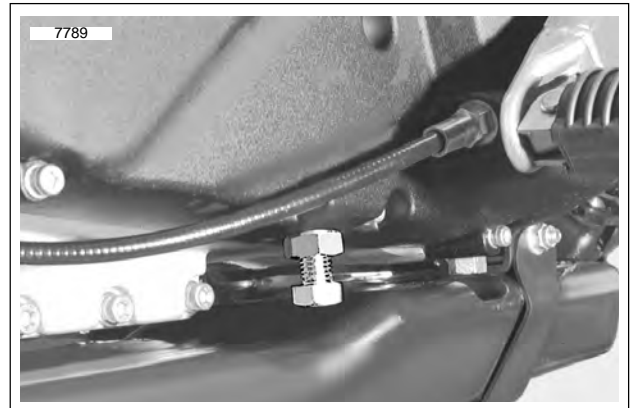

Figure 1-22. Chain Limiting Screw-without Spacer
1. See Figure 1-22. Back-off locknut and chain limiting screw. Remove spacer.